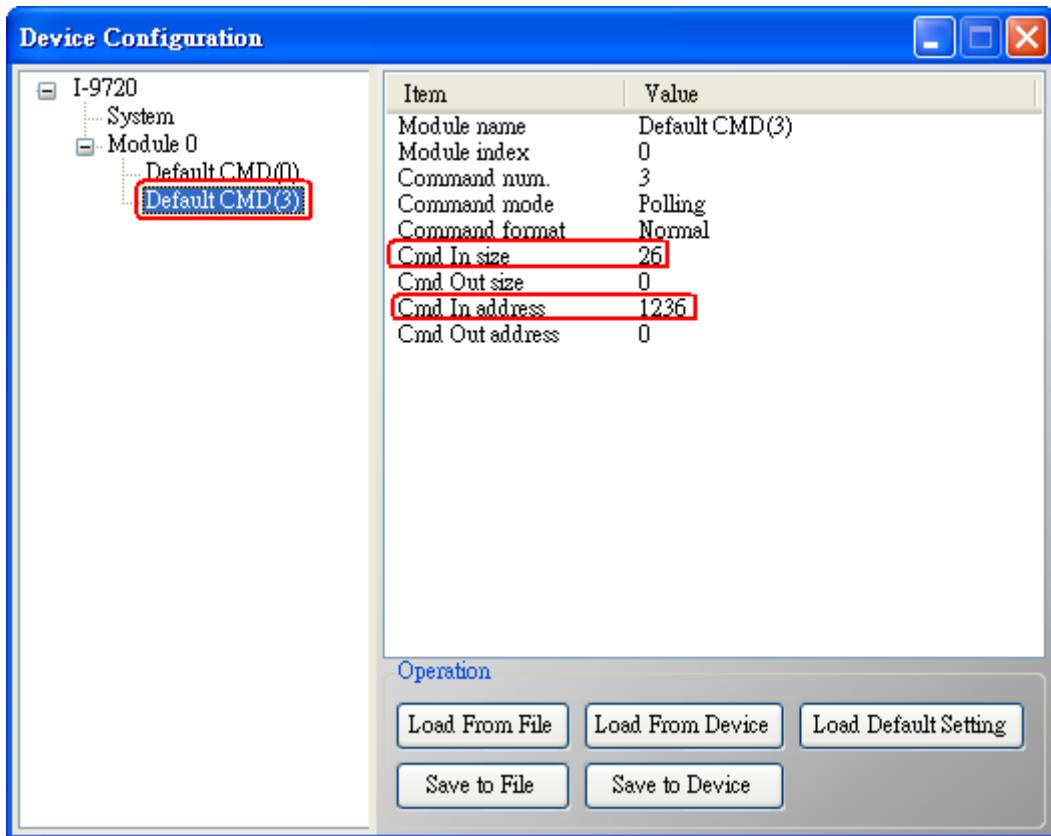

Figure 6-1 : “Default CMD(3)” of HART device in HRT-710
- (1) When adding a new HART device to I-9720, the “Default CMD(3)” will be added automatically. The Modbus start address and length of the “Default CMD(3)” will show in the “Cmd In address” and “Cmd In size” field like Figure 6-1. In the example they are 1236 (For MB Addr = 618 = 0x026A) and 26 (byte count=26 => word count=13).